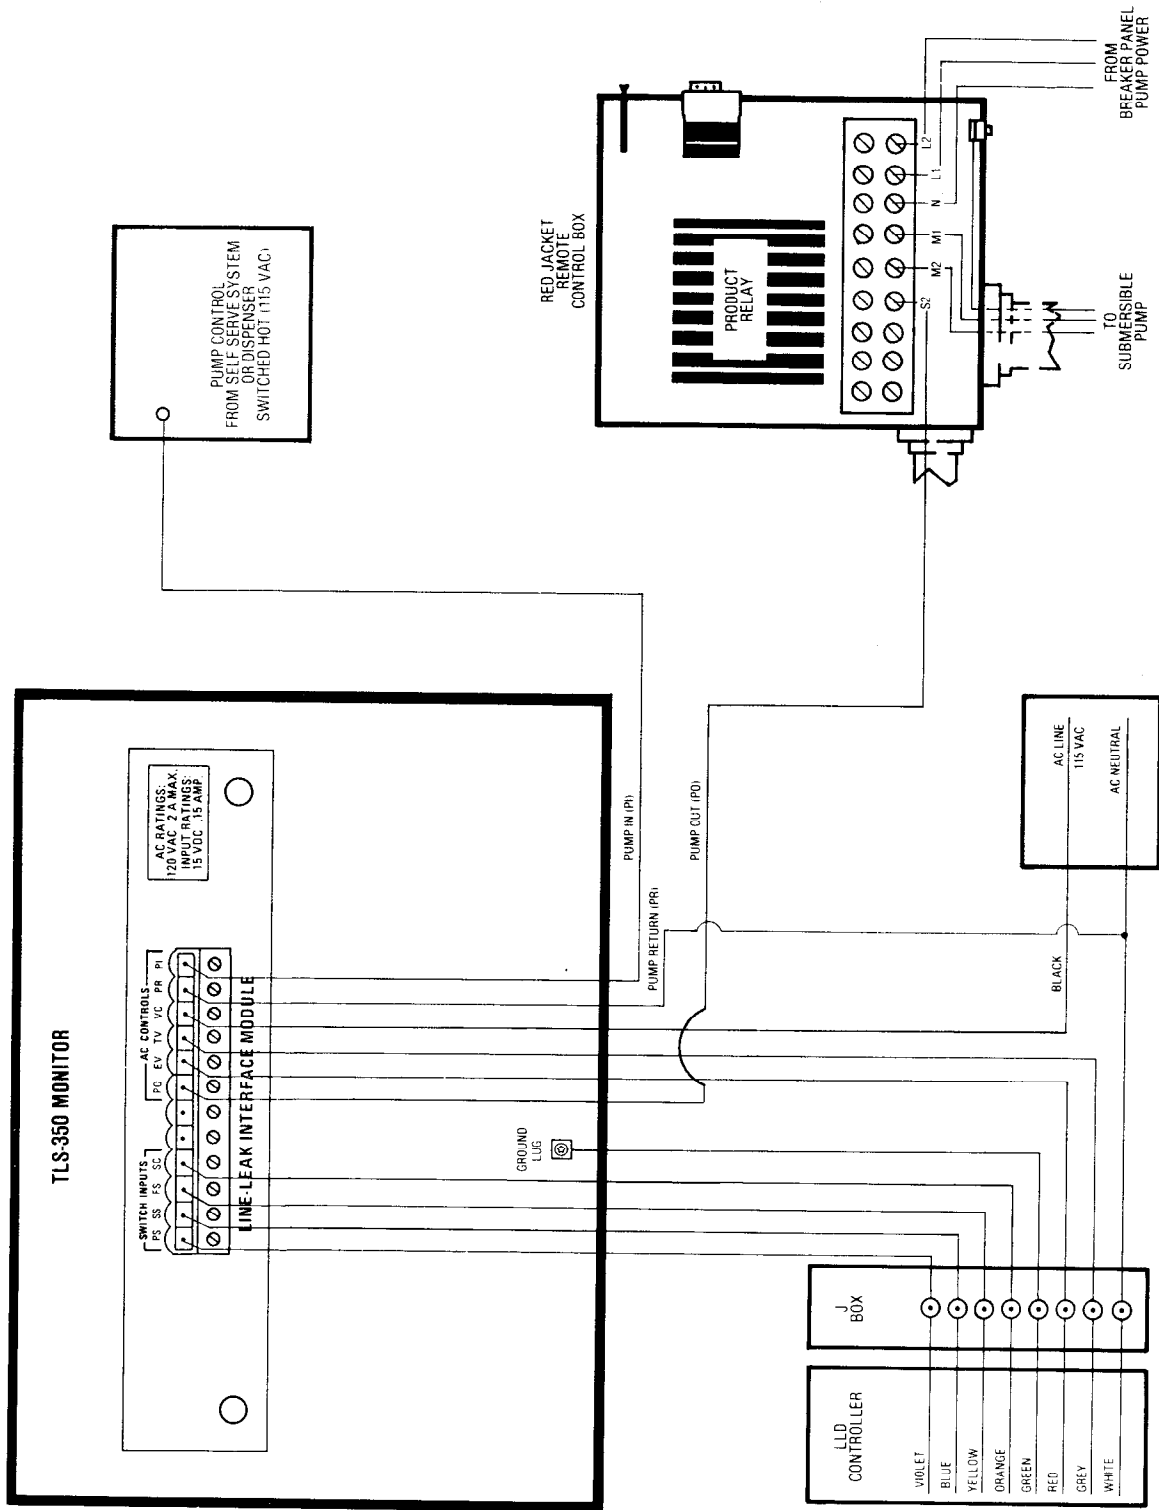
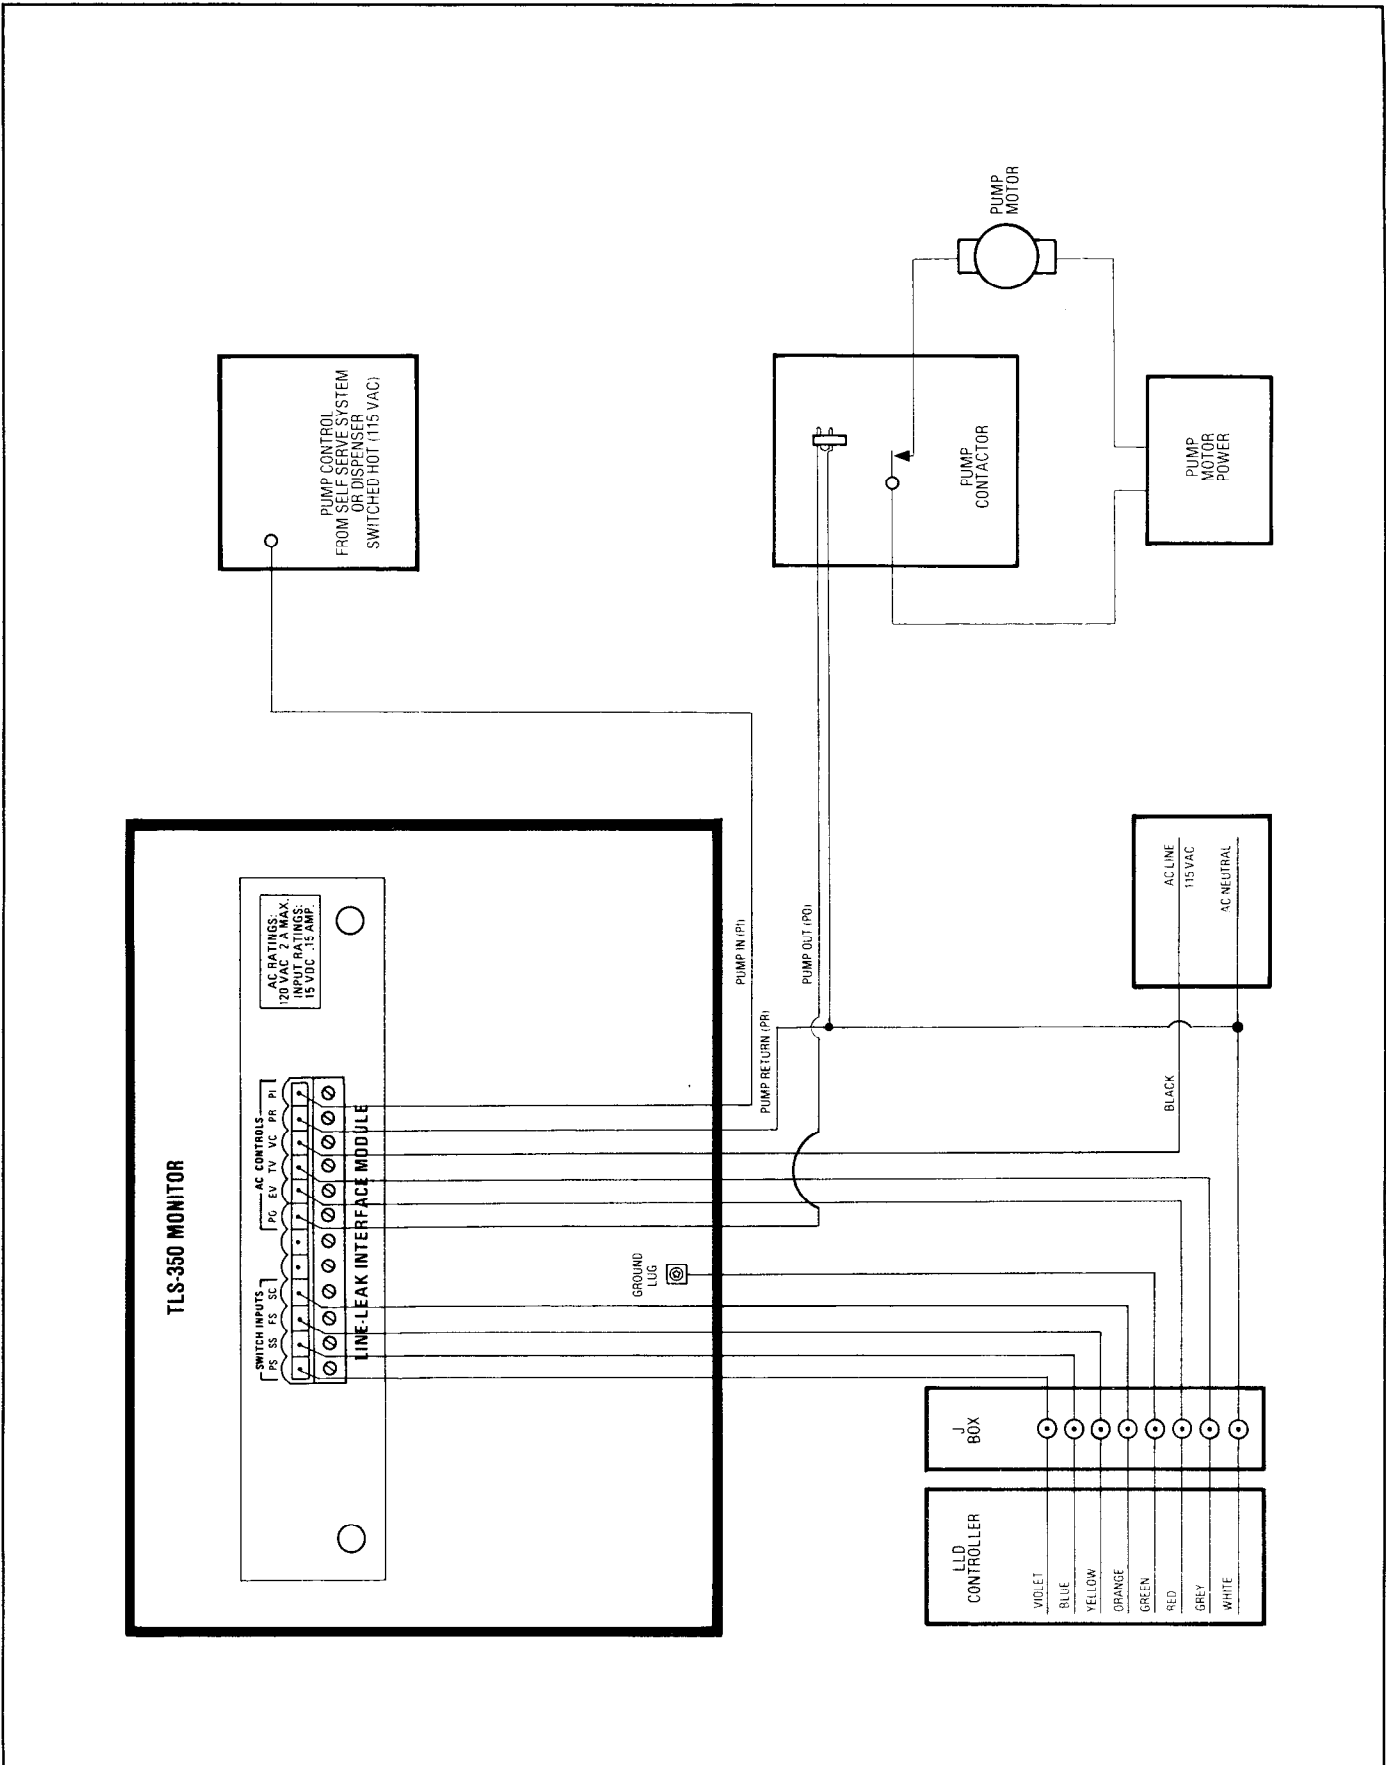

Figure 1. Line Leak Detector Kit and Pump Control Wiring Diagram for Red Jacket Relay Control Box
Figure 2. Line Leak Detector Kit and Pump Control Wiring Diagram for Non-Red Jacket Relay Control Box
6. Connect the seven (7) remaining color-coded or marked wires from each LLD controller and the three (3) wires from the pump controls to the proper terminals on the Line Leak Interface Module connector (see Figure 1, "Line Leak Detector and Pump Control Wiring Diagram for Red Jacket Relay Control Box," and Figure 2, "Line Leak Detector and Pump Control Wiring Diagram for Non-Red Jacket Relay Control Box").